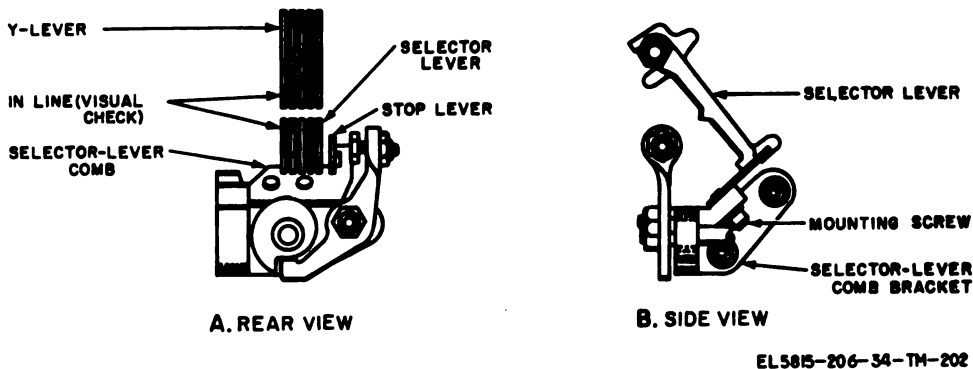

Figure 3-130. Selector-lever comb adjustment.
*a. Requirement.* The selector levers and Y-levers should be aligned, and there should be no binding between the selector levers and the selector lever comb (A, fig. 3-130).
*b. Adjustment.* Loosen the two mounting screws (B, fig. 3-130); position the selector-lever comb to meet requirement (*a* above) (be certain that the comb is against the milled surface of the selector-lever-comb bracket); and tighten the mounting screws. Check the related adjustment (para 3-170).